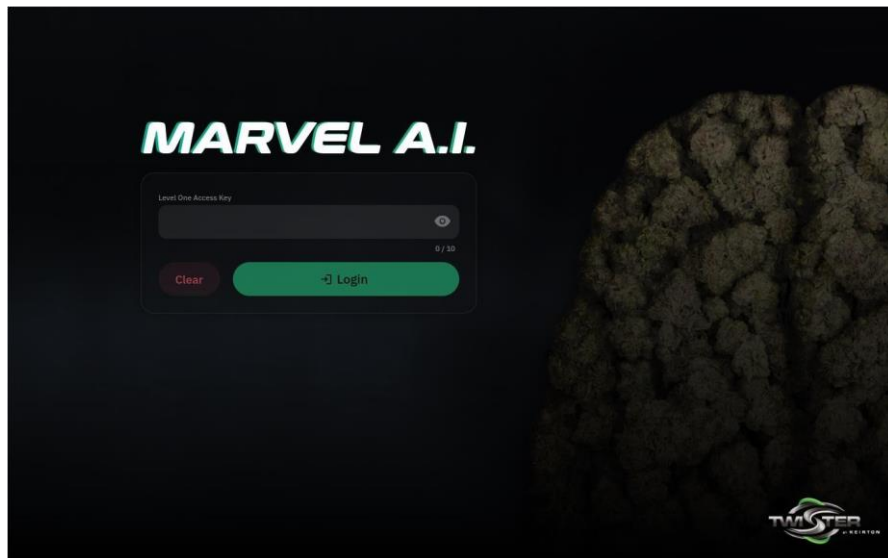

Figure 2.1: Level One Access Code prompt
1. Enter the Level One Access code in the input box (Figure 2.1).